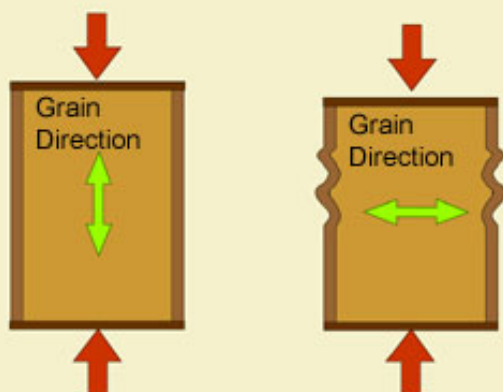

Figure 4: Compression resistance relative to paper grain direction.
1) **Stronger Casing** - this means using thicker paper, more turns of paper and rolling with the grain aligned parallel with the length of the shell. A paper tube with the grain direction running circumferential to the tube is more compressible than one where the grain runs end to end, as illustrated in Figure 4. Think of the paper grain as tiny support columns. You want the columns running from top to bottom, not stacked on their sides. The goal is to make a casing that is as resistant to compression as possible.